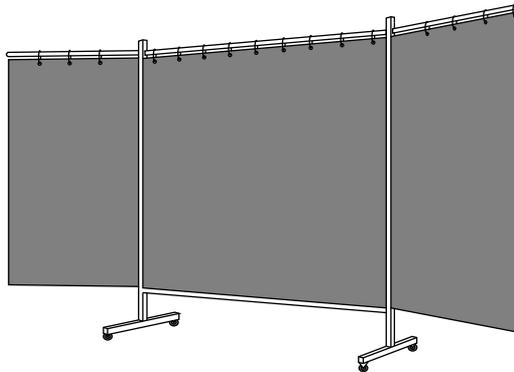

Figure 4-8:
- ✔ **Portable welding curtain:** These items (see Figure 4-8) are usually made of vinyl, and they can help to shield bystanders from the dangerous rays created while welding. Cost: \$10.